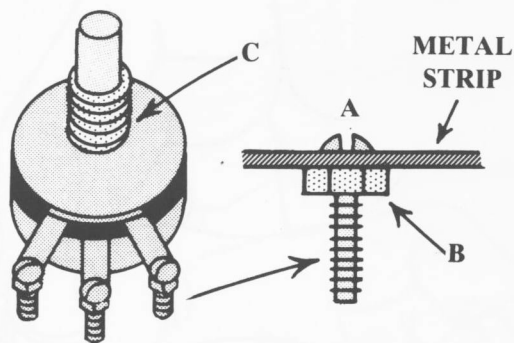

Fig. 9
9) Refer to Fig. 9. Fasten a #2 bolt (A) and nut (B) to the three strips of the three potentiometers, as shown in Fig. 9. Tighten each very firmly.